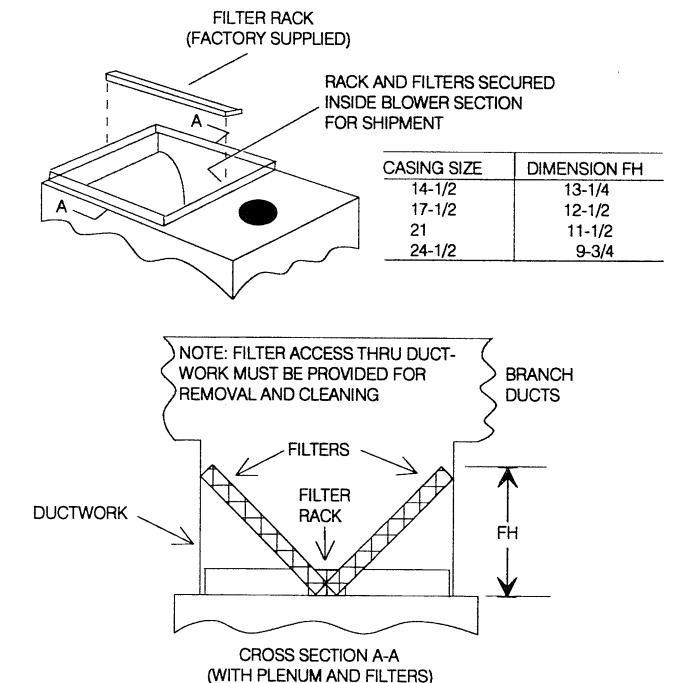

FIGURE 2 - DOWNFLOW FILTERS
Any return duct must attach to the vertical plenum above the filter height (FH) in Figure 2. Refer to dimensions in Figure 2 for proper installation.